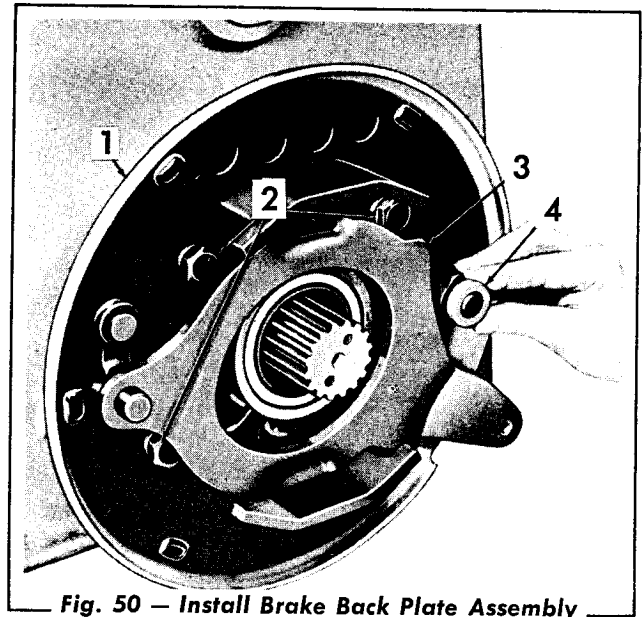

Fig. 50 — Install Brake Back Plate Assembly
14. Attach a lift sling to the rear lifting hole in the top of the converter housing and raise the transmission to a vertical position. Install the brake back plate (Fig. 50) and secure it with the three capscrews and lock-